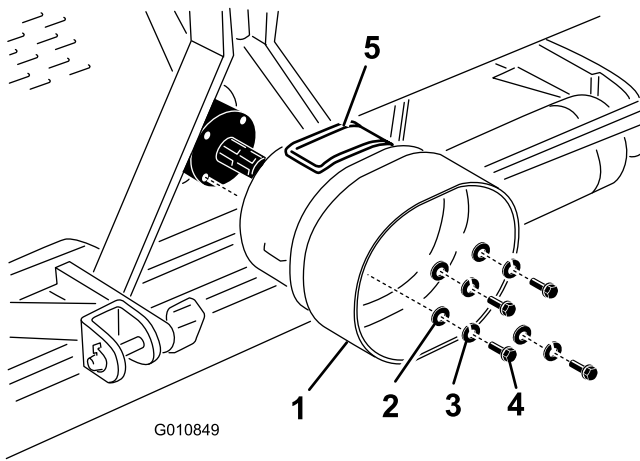

Figure 16
1. Remove the 4 bolts, lock washers and flat washers secured to the rear of the aerator gear box (Figure 16).
- Mount the PTO shield to the aerator gear box with the fasteners previously removed (Figure 16). When mounting the PTO shield, make sure the access panel (Figure 16) is positioned to the top or side depending on the aerator frame configuration.
Note: The access panel (Figure 16) can be opened to ease the removal and installation of the PTO shaft mounting fasteners.